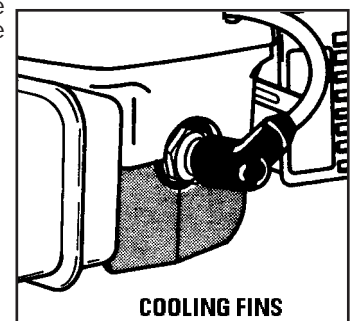

Figure 7
③ COOLING SYSTEM (see Figure 7)